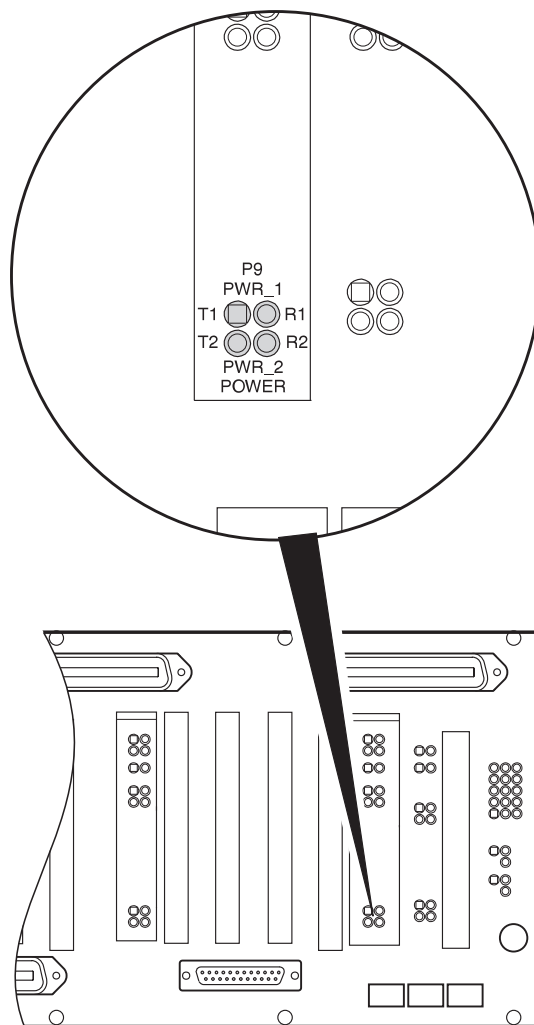

Figure 9. Installing the Auxiliary Power Pairs
8.10 Auxiliary Power Pairs. When PG-Flex is used with a doubler, wire the auxiliary power pairs to the COTS (Figure 9) as follows: